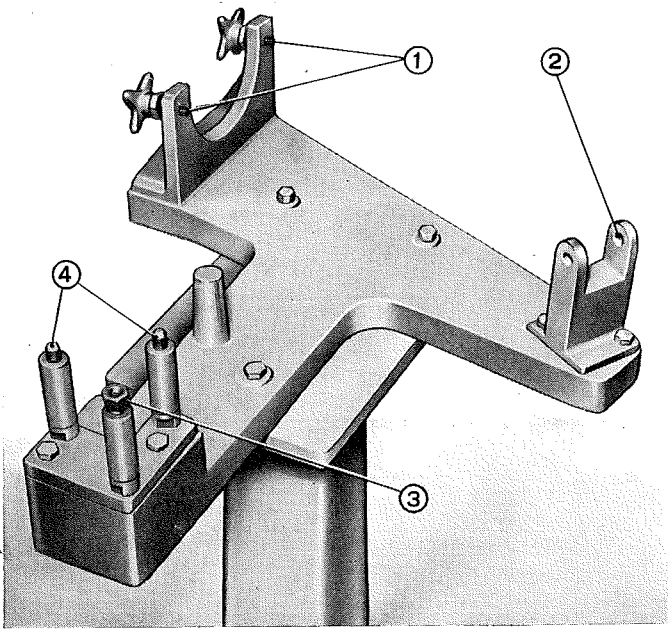
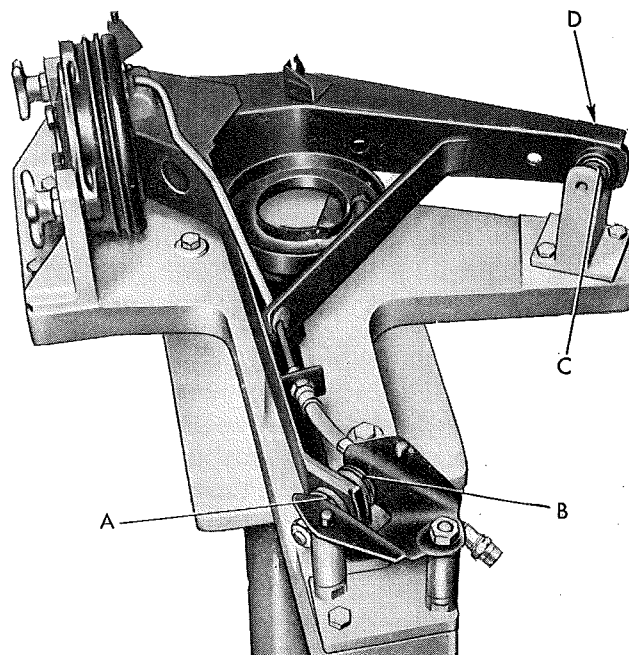
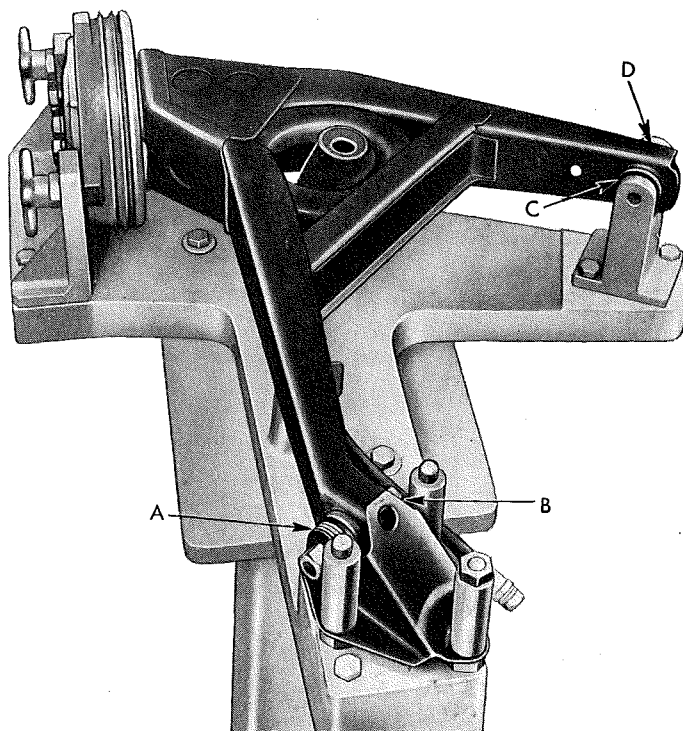

Fig. 250 - Fixture A. 66064, for swinging arm inspection and adjustment.
Fig. 253 - Adjusting right rear suspension swinging arm on fixture A. 66064.
Fig. 254 - Adjusting left rear suspension swinging arm on fixture A. 66064.
— Tighten the clamp screws (1, fig. 250) on wheel drum.
— Couple swinging arm inner member to seat (2, fig. 250) on fixture.
— Fit swinging arm external support holes on fixture pins (3, fig. 250).
**NOTE -** Replace fixture pins (3, fig. 250) to external support holes and install suspension arm right side up (fig. 253) or upside down (fig. 254), according to whether the right or left hand arm is involved.
To adjust the swinging arm, use fixture A. 66064 (fig. 253).
At points A and B (fig. 253), between the « estendblock » and the swinging arm-to-body front mounting bracket, fit six shims, three on each side. For shim centering use alignment bar A. 66057; next, while
Then, at points C and D (fig. 253), insert the number of shims required to fill in the gap between the «estendblock» and the two fixture shoulders.